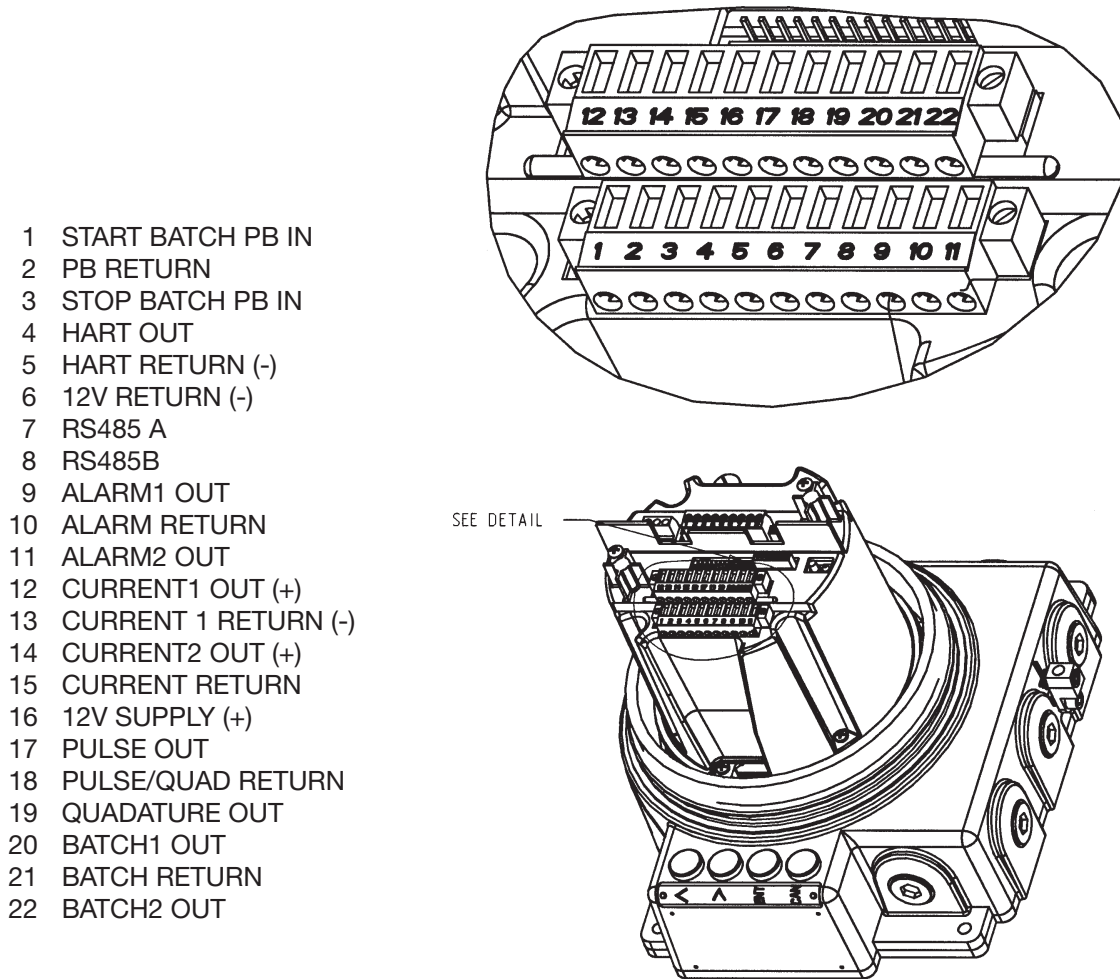

Figure 3.5.2: Transmitter Terminals
2. If input/output cables requires connection to the NexGen transmitter terminals, See Figure 3.5.2.